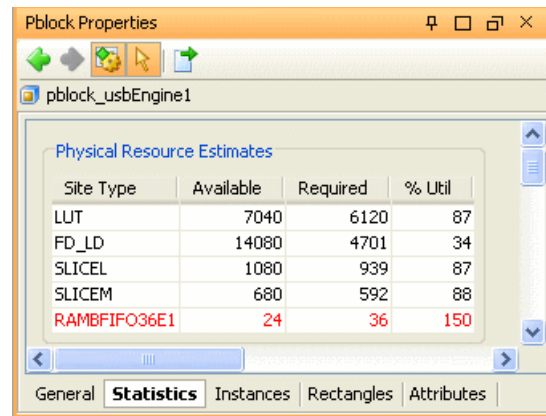

Figure 10-14: Pblock Properties View: Statistics Tab
2. Click the **Statistics** tab, shown in Figure 10-14.
- **% Utilization** — Displays the estimated utilization percentage for each logic type. The appropriate utilization can be met by resizing the Pblock. If utilization for logic objects is over 100%, the text appears in red, as shown in Figure 10-14.